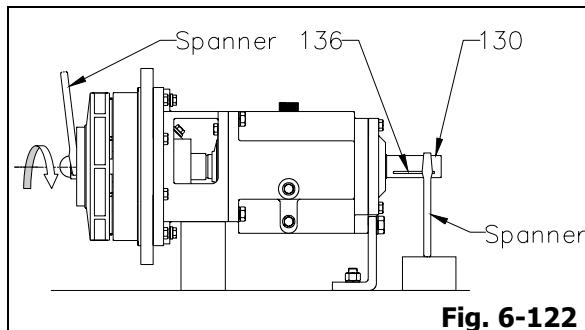

Fig. 6-122
4. Slide spanner over the shaft (130) and shaft end key (136). Hold spanner on the workbench or a solid block and make sure the power end is secure on the work surface.
5. Place another spanner over impeller nut (134). Turn spanner clockwise (viewed from the impeller end of the shaft) to
tighten impeller nut (134) properly (Fig. 6-122).